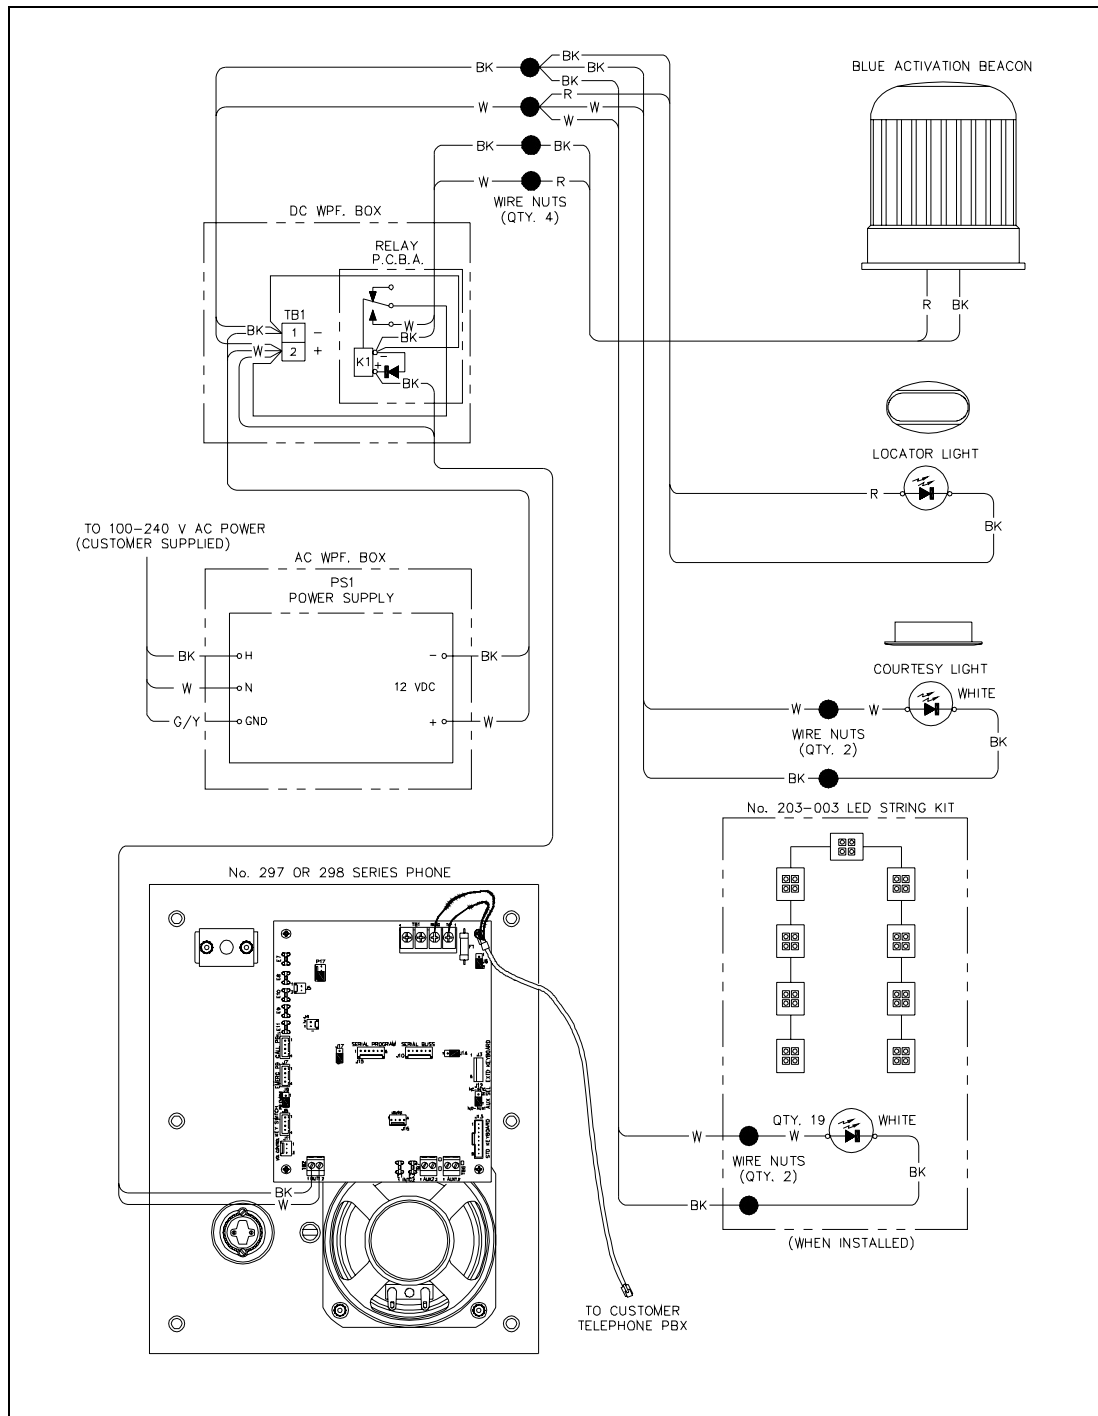
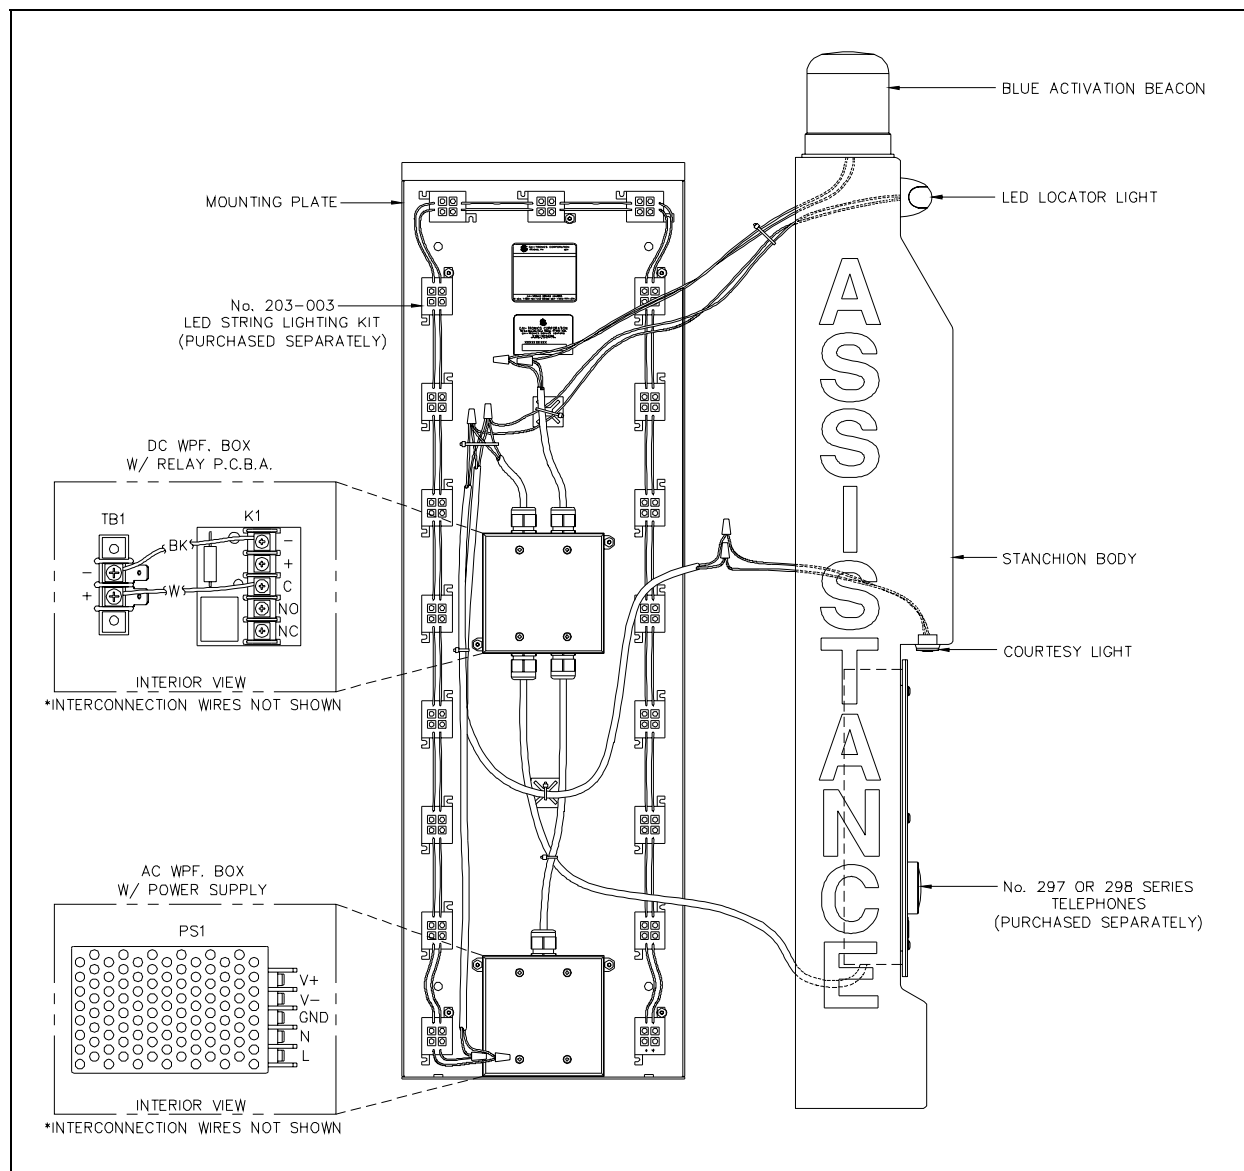

Figure 5. Connection Diagram
Figure 6. Installation Wiring Diagram
2. Connect the LED locator light and courtesy light wires to the proper 12 V dc power cable leads from the weatherproof box. Connect the activation beacon wires to the relay cable leads from the weatherproof box. Refer to Figure 5 and Figure 6.
NOTE 1: Final installation wiring is exceptionally important when the interior lighting kit is installed. Wires must adequately be bundled and anchored so as not to cast shadows on the main stanchion body. For proper wire routing and cable tie anchoring refer to Figure 6.
8. Attach the telephone's cable lead to TB2 (out) on the telephone PCBA as shown in Figure 5.
3. Ensure that the mounted telephone is on an active line and all programming to the telephone is complete in accordance with its instruction manual. Depress the red button to test that the telephone dials to the proper phone number and the beacon activates. After the open line is disconnected, the beacon will stop flashing. Refer to the connection diagram in Figure 5 and phone's user manual to troubleshoot any problems. For handset version phones, lifting the handset from the cradle should activate the beacon.